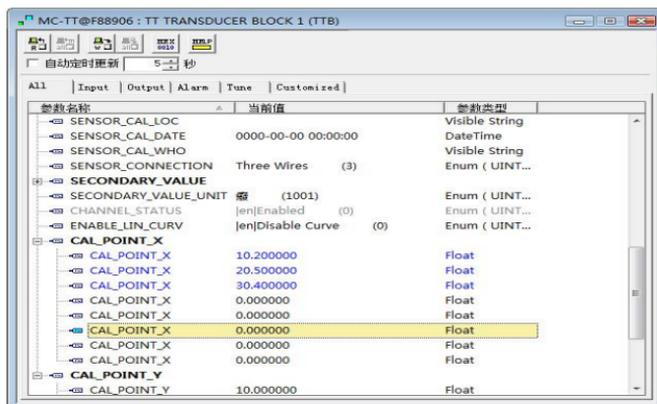

Figure 4.5 CAL_POINT_X configuration
- Input standard signal via standard source, open the related transducer block, read the PRIMARY_VALUE value and write it to the CAL_POINT_X array. For example, if the read value is 10.2, 20.5, 30.4, are written to the CAL_POINT_X array, shown as Figure 4.5. The calibration is finished.